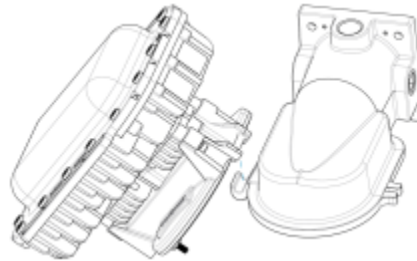

Figure 3: Hang Area Light on Bracket
5. Hang the Area Light on the Wall Mount Bracket. Make sure you do not pinch any of the wires during this process. **See Figure 3**